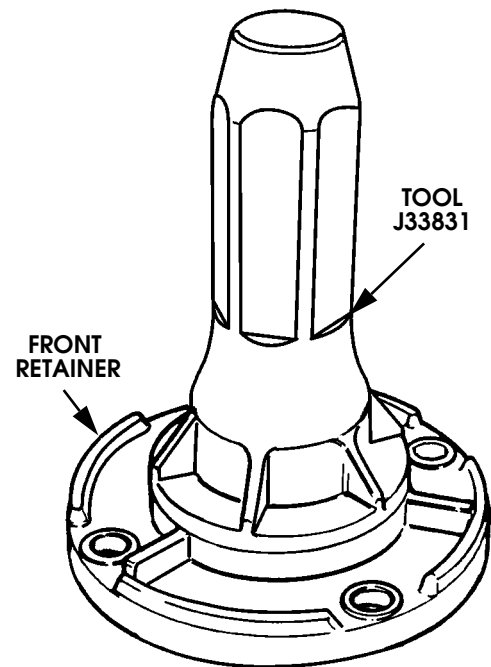

Figure 5-139: Front Retainer Seal Installation
- a. Install new seal in retainer with tool J33831 (Figure 5-139).